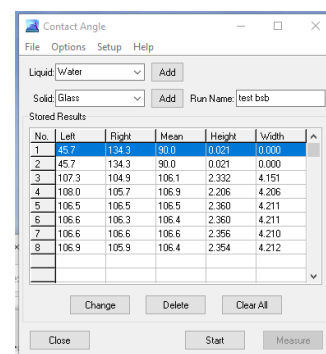

Figure 2 Contact Angle Window
9. Start DropImage software, you should see a live image if not check the “**Live Image**” box in the top right of the image, Figure 2.
23. Click the **Start** button, Figure 2. The crosshairs cursor lines appear.